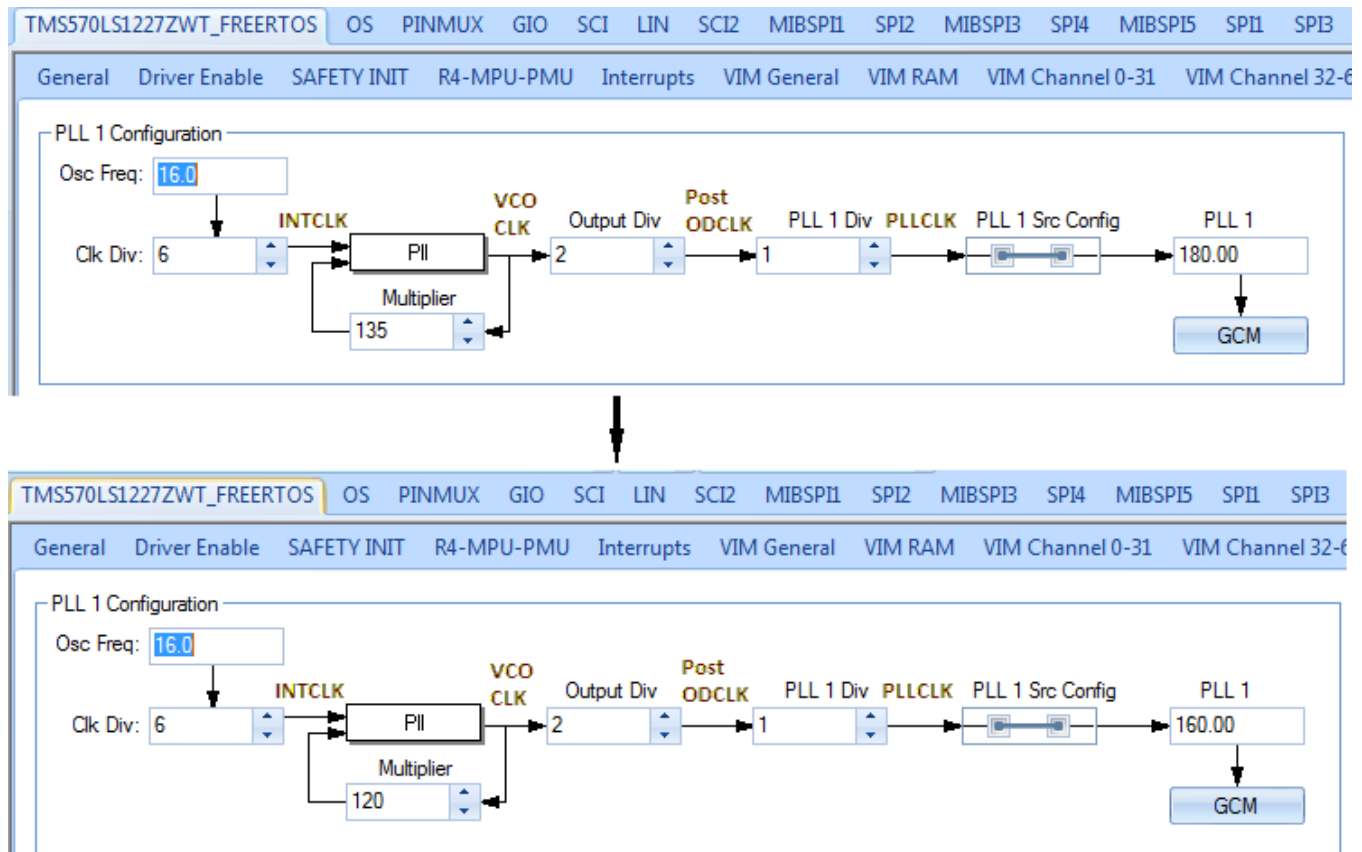

Figure 4. Configure PLL
2. Configure the PLL and other clock settings as per the actual device requirements. In the example shown in Figure 4, the maximum CPU clock for the TMS570LS1227PGE is 160 MHz, whereas, with the TMS570LS1227ZWT, it is 180 MHz.